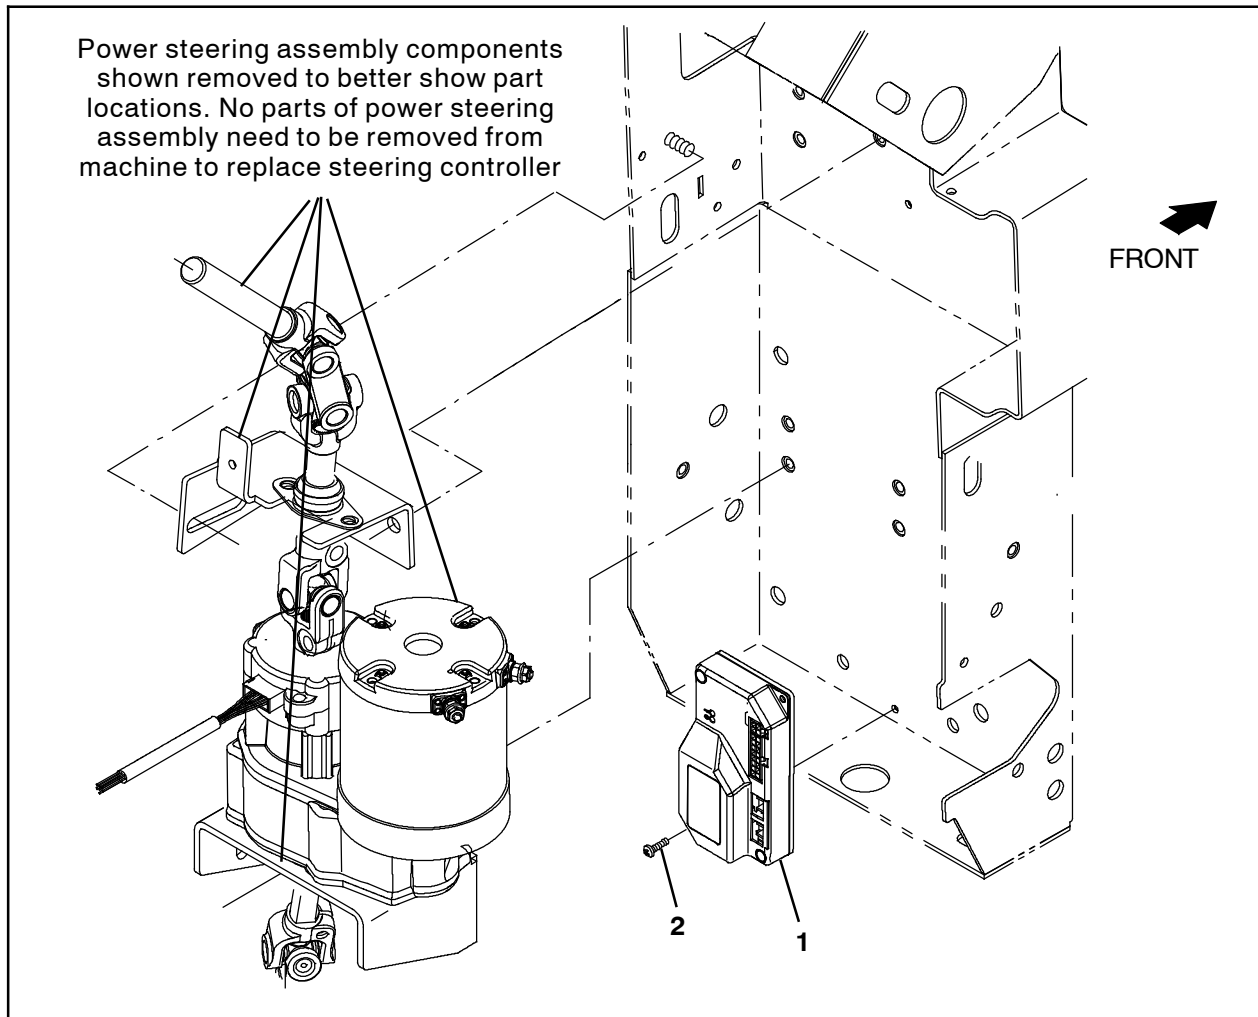
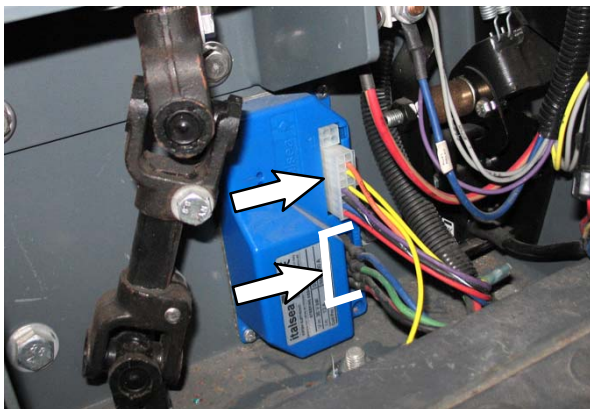

FIG. 2
FIG. 3
1. Disconnect all the power steering harness connections from the steering controller. (Fig. 3 / Fig. 4)
2. Remove the steering controller from the machine. Discard the removed steering controller and all mounting hardware. (Fig. 2)
3. Use two M4 pan screws (2) to install the new steering controller (1) onto the machine. (Fig. 2)
4. Connect the power steering harness to the steering controller (1). (Fig. 2 / Fig. 3 / Fig. 4)